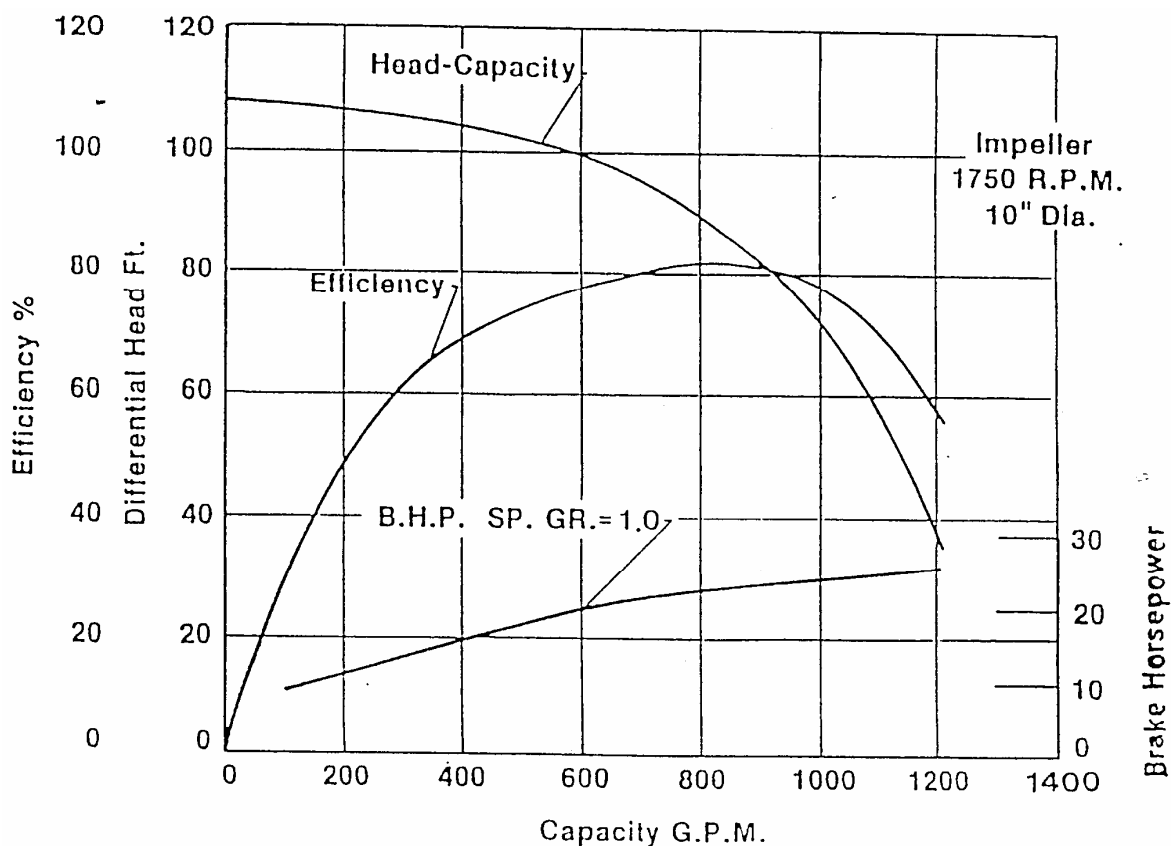

FIGURE 1.11 CHARACTERISTICS CURVES AT CONSTANT SPEED
b. Efficiency Curves (Figure 1.11)
c. Horsepower Curves (Figure 1.11)